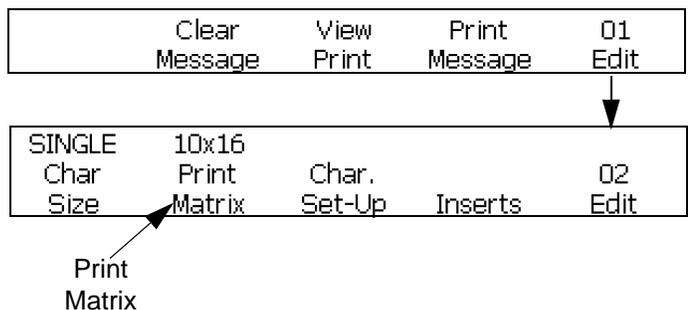

Figure 6-7: Accessing Frame <02 Edit>
- 1 Press F5 until the Frame <02 Edit> appears in the display. Refer to Figure 6-7.